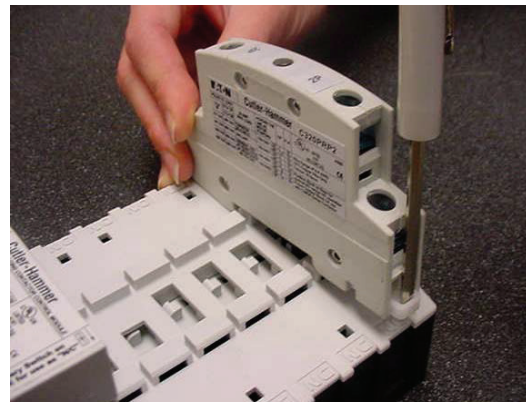

Figure 2
3. Remove block by using a screwdriver to pull the clip as shown (see Figure 2). Rotate block 180 degrees to convert from NO to NC or from NC to NO and install per 2.3 below.